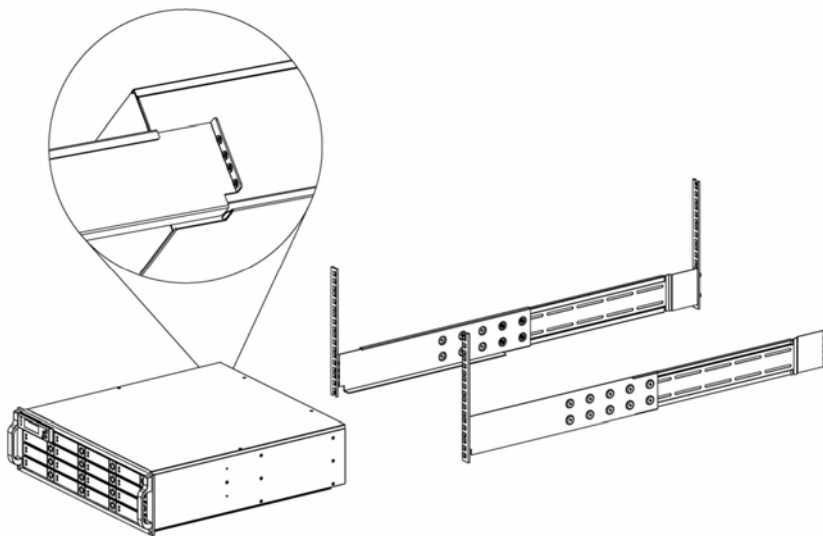

Figure 2.
1. Lift the subsystem enclosure and slide it slowly and gently along the slide rail into the rack as Figure 2.